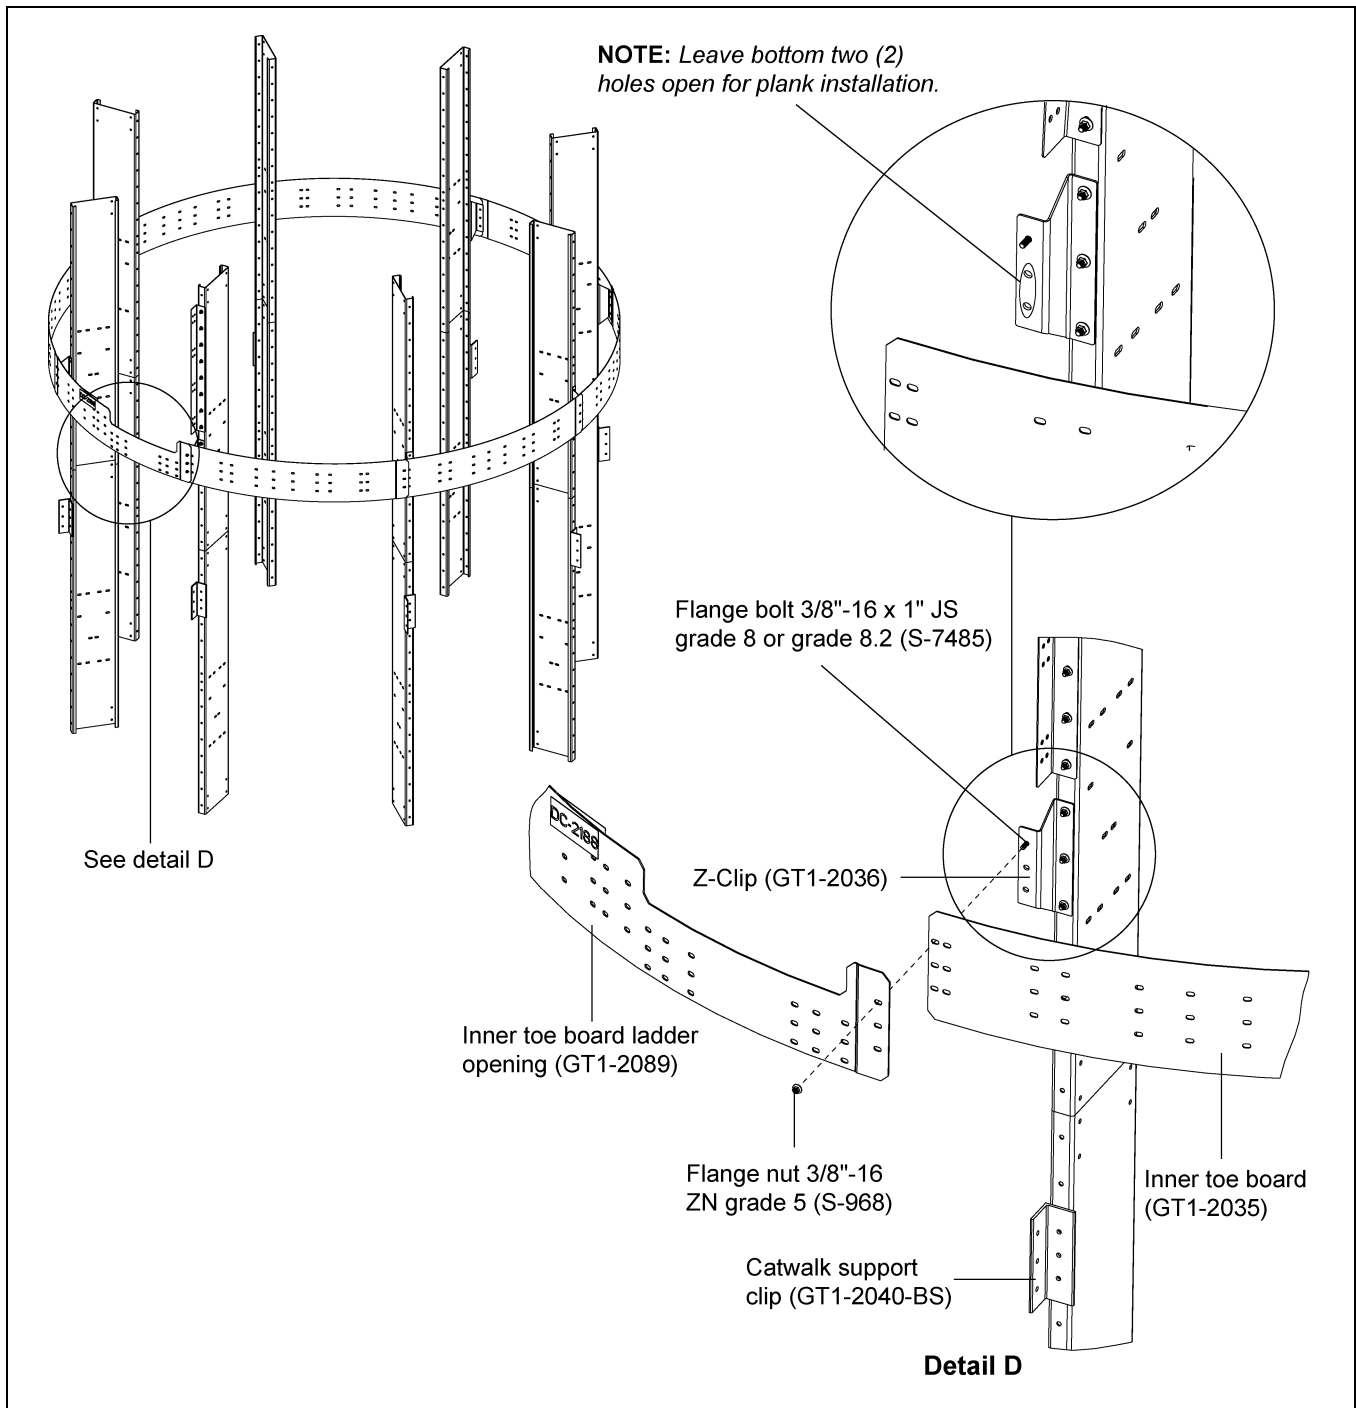
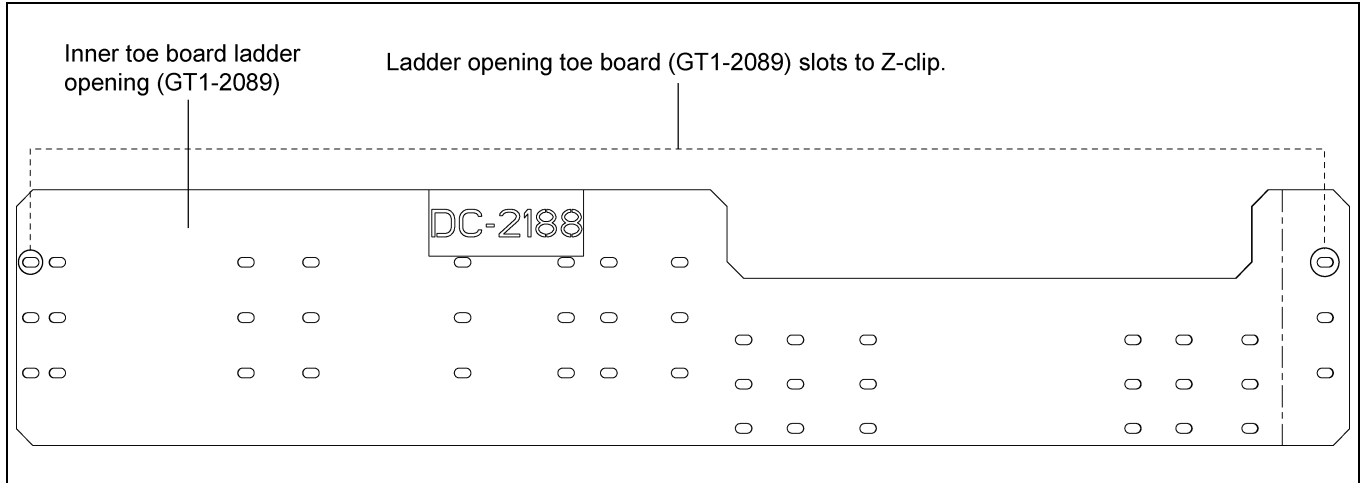

Figure 4G
Figure 4H 12' Ladder Opening Toe Board (GT1-2089)
1. Install the inner toe board (GT1-2035) to the Z-clips (GT1-2036). All toe boards should be installed between the Z-clips using 3/8"-16 x 1" JS grade 8 or grade 8.2 bolts (S-7485) and 3/8"-16 ZN grade 5 nuts (S-968). (See Figure 4G.)
2. At the ladder location, install the ladder opening toe board (GT1-2089) to Z-clips using 3/8"-16 x 1" JS grade 8 or grade 8.2 bolts (S-7485) and 3/8"-16 ZN grade 5 nuts (S-968) in such a way that toe board opening falls on the ladder path. (See Figure 4G below and Figure 4H on Page 18.)